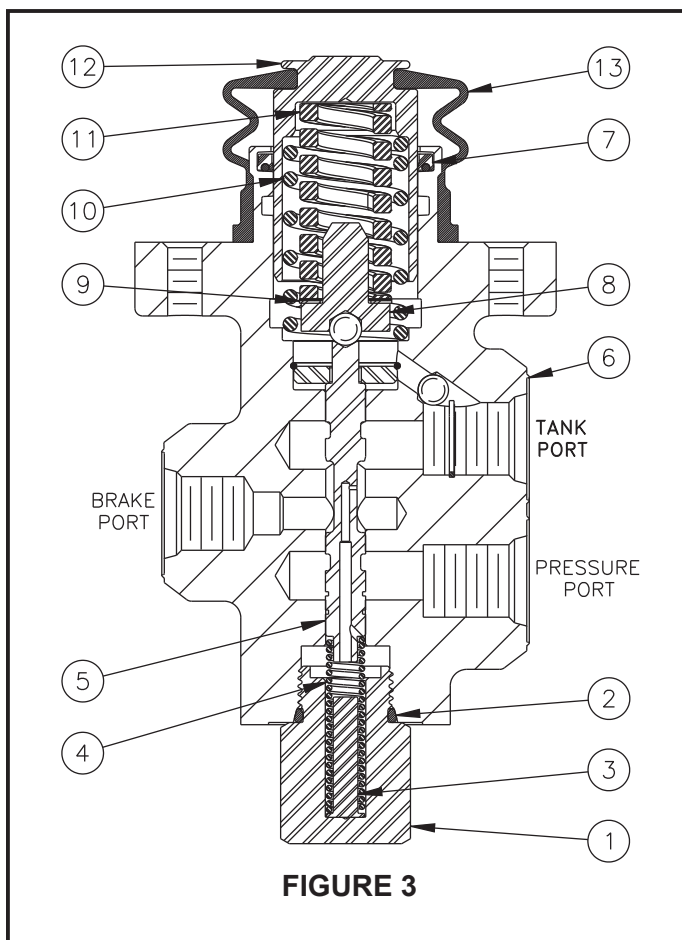

FIGURE 3
(Refer to Figures 3 and 4)
Installation and test note: Piston (12) in Figures 3 & 4 must be retained mechanically. This will prevent it from blowing out at high velocity if an incorrect connection occurs from power source to tank port. **Be sure the tank port is connected to tank.** Failure to do this could result in serious injury or death.